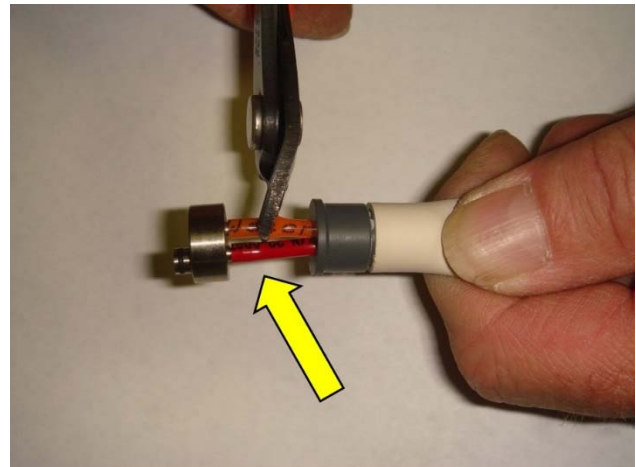

Fig. 4
6. Using side cutters or scissors, clip all tubing as close to the barb as possible. Make sure to allow slack on the tubing for reattaching to the new connector. (Fig. 4)